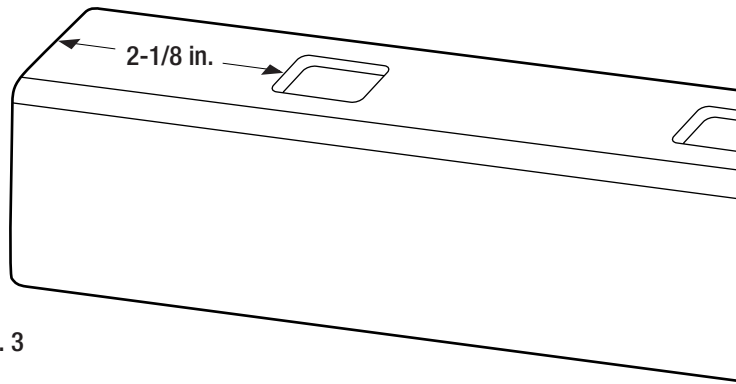

Fig. 3
- Transfer the measurement to the top rail, making sure that the distance from the end of the rail to the first baluster slot is equal on both ends of the rail. The minimum distance from a post to first baluster slot is 2 -1/8 in. for clearance from the brackets. (See Fig. 3)